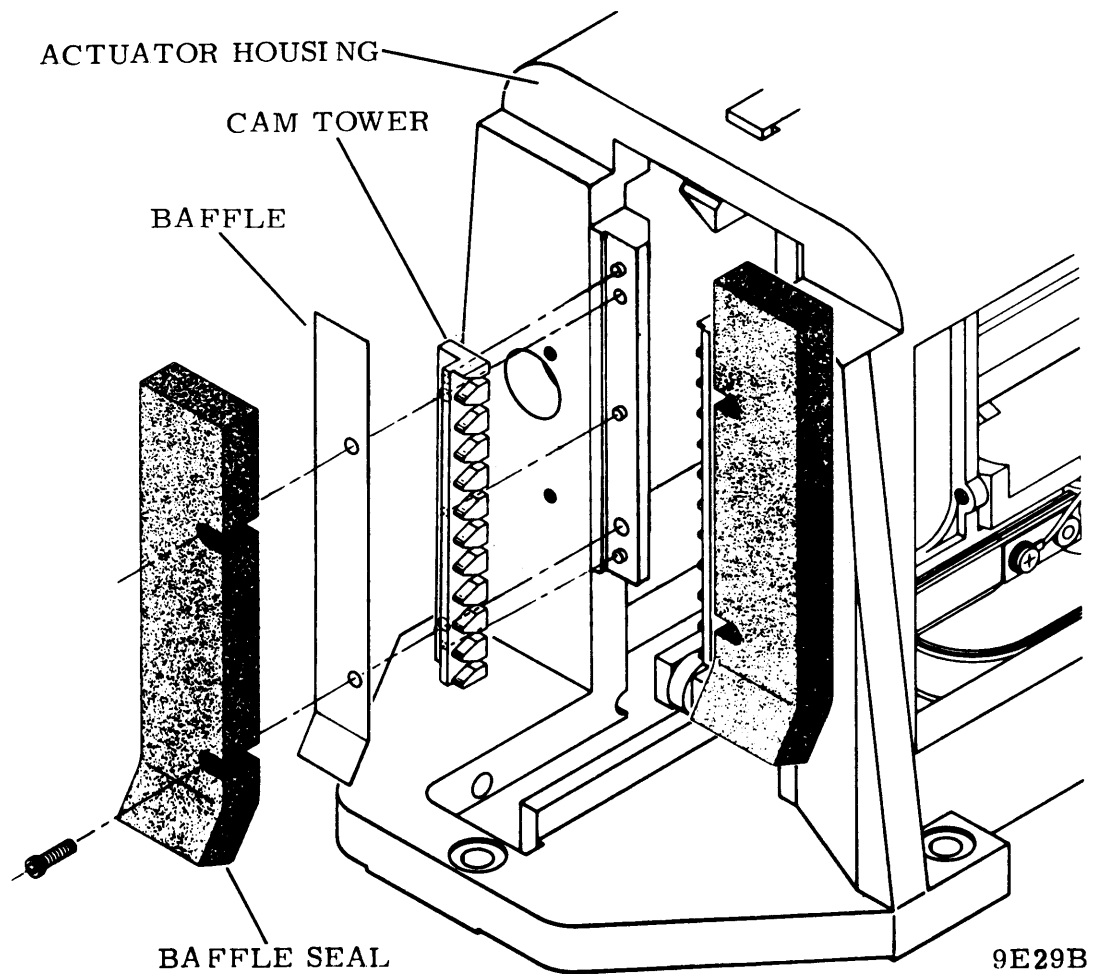

Figure 6-15. Cam Towers
7. Remove two screws securing each cam tower, baffle, and baffle seal to actuator housing. (Refer to figure 6-15).
10. Install replacement cam towers as follows (refer to figure 6-15):